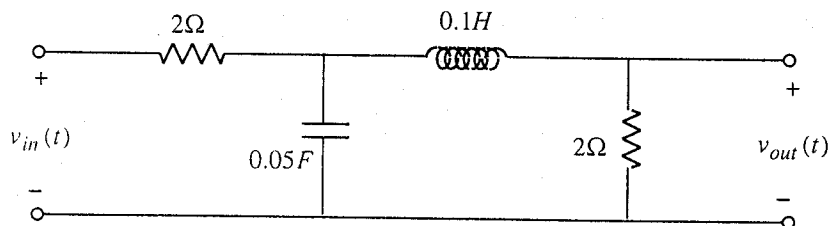

Fig.2
2. Fig.2 shows an electrical circuit with input $v_{in}(t)$ and output $v_{out}(t)$.